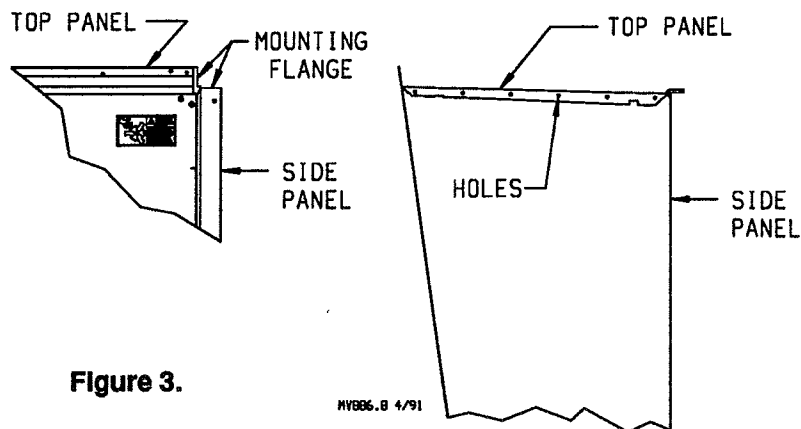

Figure 3.
3. Align holes of top panel to holes in side panel, with mounting flanges of both panels flush and outward. Clamp together with locking pliers. Attach panels at holes with six (6) #10 x 1/2 self drilling screws. See Figure 3.
4. Align second side panel holes to top panel holes with mounting flanges of both panels pointing outwards and flush. Clamp both panels together and secure with six (6) #10 x 1/2 self drilling screws in the holes similar to the ones shown in Figure 3.